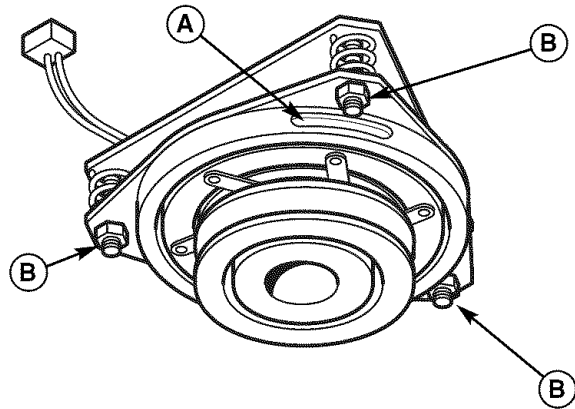

Figure 24. PTO Clutch Adjustment
2. See Figure 24. Note the position of the 3 adjustment windows (A) in the side of the brake plate and the nylock adjustment nuts (B).